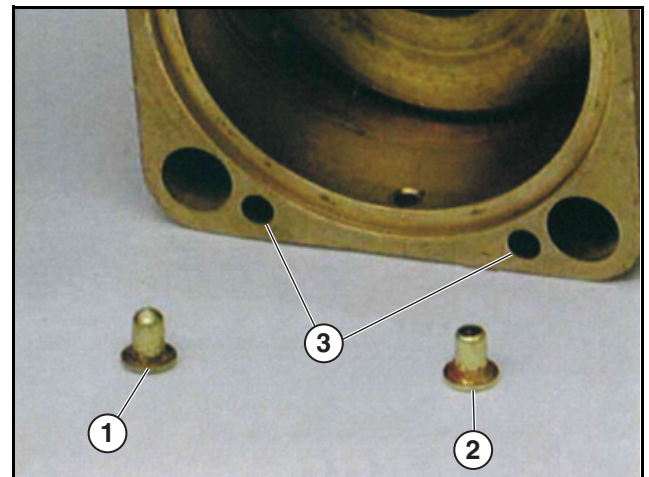

Figure 1: Open and Closed Grommets
An incident was reported in which a customer had a Versa Fuel Valve (Base P/N 211194) leak upon installation. Upon closer review it was discovered that grommets used to seal the valve pilot circuit were installed in the incorrect orientation. Should the valve leak upon installation or need to be disassembled in the field, new grommets must be purchased and installed as described below (also see *Figure 1*).
Blind grommet, P/N 4302-52B, blocks pilot air to the actuator (see *Figure 1, item 1*).
Open grommet, P/N 4302-52, allows pilot air to flow from the valve to the actuator (see *Figure 1, item 2*).
Grommets are placed in both actuator holes (see *Figure 1, item 3*). For an internally piloted valve, the open grommet must line up with internal drilling on the valve body. The other hole must have a blind grommet.